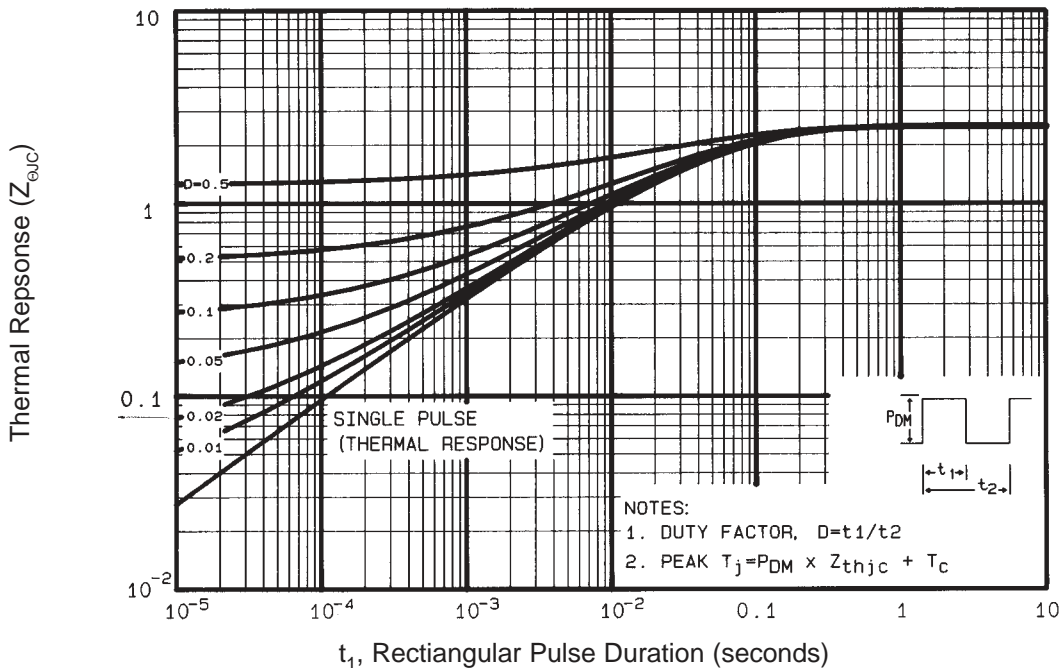

Fig. 11 Maximum Effective Transient Thermal Impedance, Junction-to-Case
- ① Repetitive rating; pulse width limited by max. junction temperature. (See fig. 11)
- ② V_{DD} = 25V, starting T_J = 25°C, L = 0.024mH